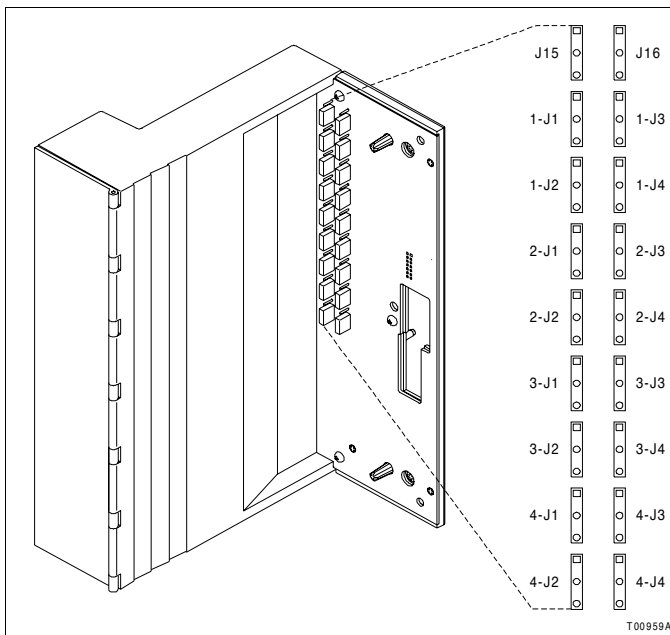

Figure PR11-1. User-Configurable Jumpers - Base
4. Set the analog input field power select jumpers J15 and J16 located on the CIO-100 base (Table PR11-2). These jumpers affect channels configured as IFP or LFP powered 4 to 20 milliampere analog inputs. Refer to Figure PR11-1 for jumper locations.